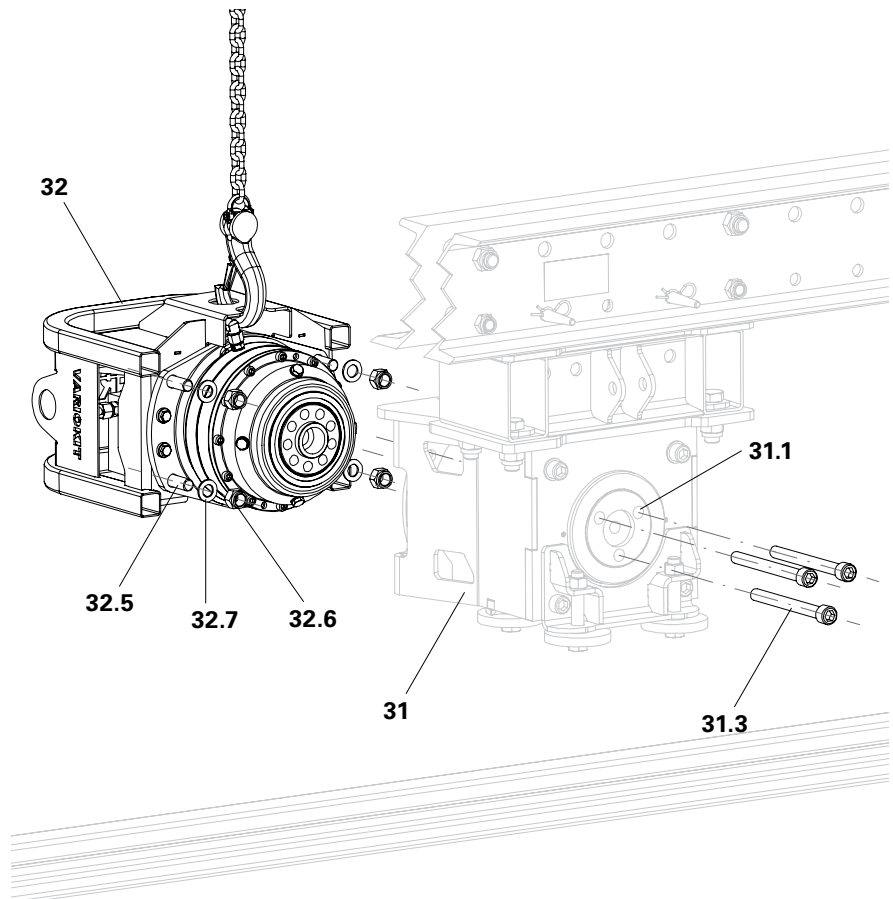

Fig. B3.13a
3. Attach the hydraulic drive (32) to the crane lifting gear and fly in.
4. Position the hydraulic drive in front of the wheel block (31) and then carefully push into the wheel block.
5. Fix the hydraulic drive to the wheel block with bolts M20x70 (32.5), washers M20 (32.7) and nuts M20 (32.6). (Fig. B3.13a + B3.13b)